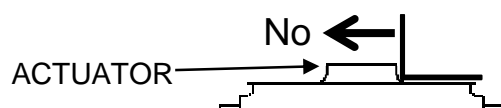

Fig. 11 Load and impact from side direction
- 10.11. Please be careful on designing and handling especially when the switch is being built into the unit, not to add side force (static or impact) to the ACTUATOR as shown below (Fig. 11), because the ACTUATOR might deform or come off.